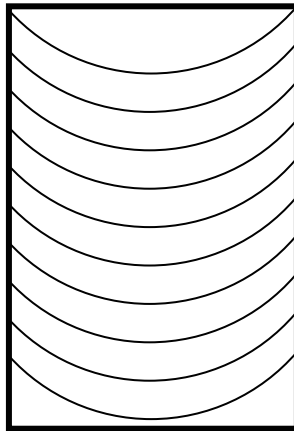

Figure 14 – Nested set from a cylinder of wood.
5. Related to Tip #4, you can core many bowls from a tall cylinder of wood by entering the blank from the side as shown in Figure 14.